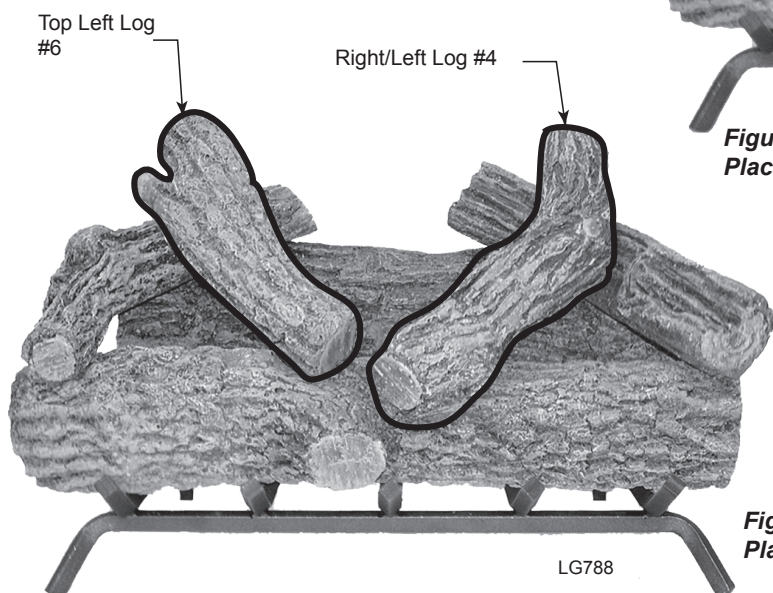

Figure 19 -
5. Rest Right/Left Log #4 on Log #3 and Log #1. *Figure 19*
6. Rest Top Left Log #6 on Log #4 and Log #1. *Figure 19*